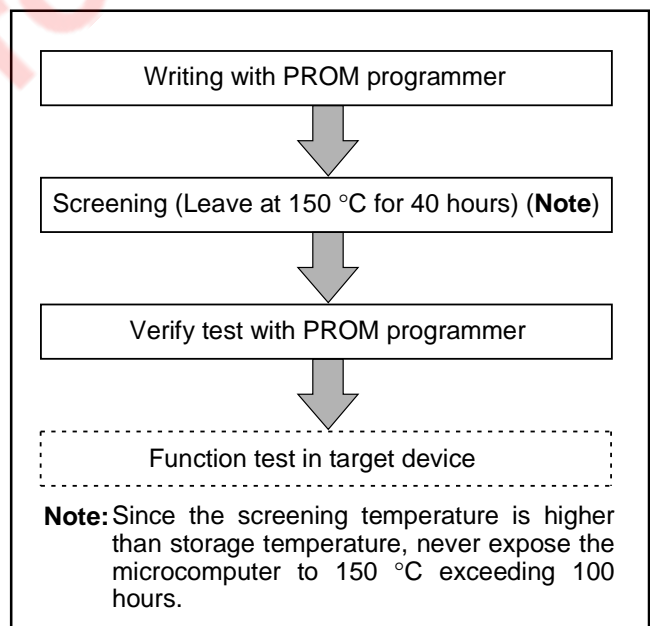

Fig. 77 Flow of writing and test of the product shipped in blank
(2) Notes on handling
- ① A high-voltage is used for writing. Take care that overvoltage is not applied. Take care especially at turning on the power.
- ② For the One Time PROM version shipped in blank, Renesas Technology Corp. does not perform PROM writing test and screening in the assembly process and following processes. In order to improve reliability after writing, performing writing and test according to the flow shown in Figure 77 before using is recommended (Products shipped in blank: PROM contents is not written in factory when shipped).
(3) Electric Characteristic Differences Between Mask ROM and One Time PROM Version MCU